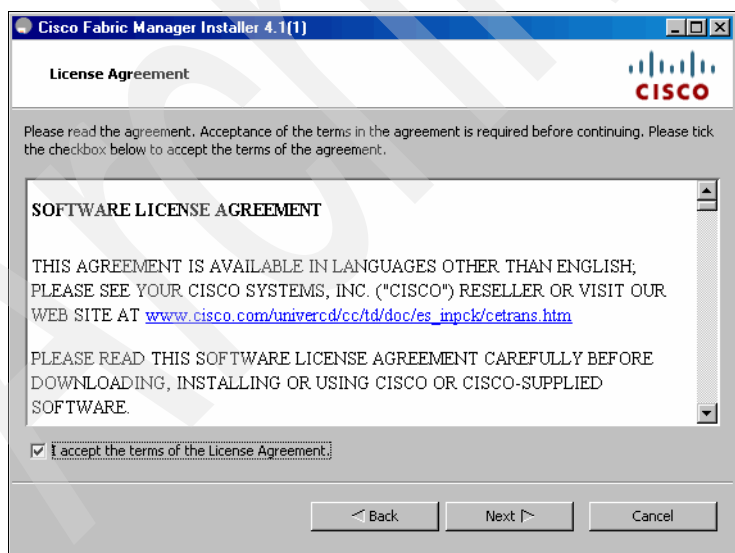

Figure 4-10 Cisco Fabric Manager Installer License Agreement panel
4. Click **Next** and then check the selection box, as shown in Figure 4-10.